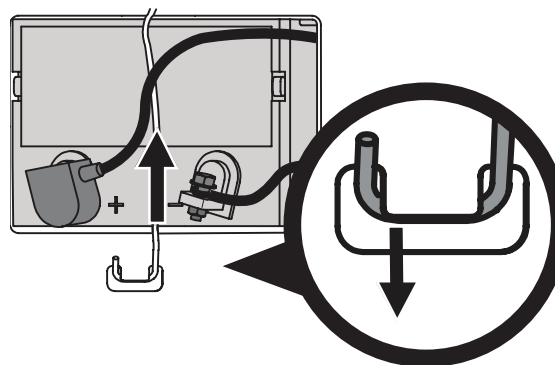

Figure 12
3. Remove the battery hold down bracket by pushing the hooked end out of the tab on the fender to the right side of the battery. Then flip the battery hold-down bracket up to free the battery (Figure 12).